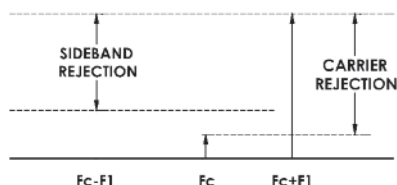

Figure 1. Carrier Rejection.
**Carrier rejection** – The amount of carrier measured in dB below the desired output signal when a coherent signal of equal amplitude and 90 degrees phase difference is applied to the I&Q ports. This is shown in **Figure 1** below.  $f_c$  &  $f_i$  are the carrier and IF (I-port/Q-port) frequencies, respectively. This also applies to biphase modulators